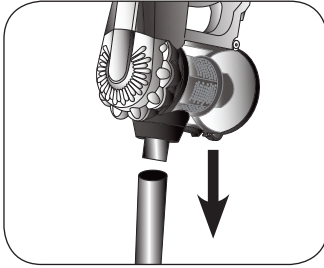

Fig. 2
Remove the packaging materials from inside and outside of the appliance. Remove all the stickers. Grab the motor body (F) by the handle (P). Assemble the tube (E) on the motor body (Fig. 2).